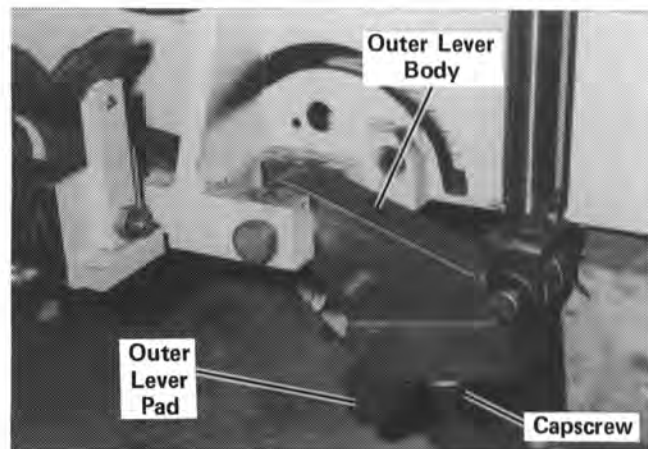

Figure 42
4. If the gage measurement is not within the recommended $1/4$ " to $1/2$ " less than gage it will be necessary to adjust the movable outer lever pad to a position which will give the specified measurement. See Figure 42. The edge of the lever body and mating pad are serrated and each serration will move the pad $1/16$ ". The pad is adjusted by loosening the hex head cap-screw until the pad can be moved along the slots in the pad.